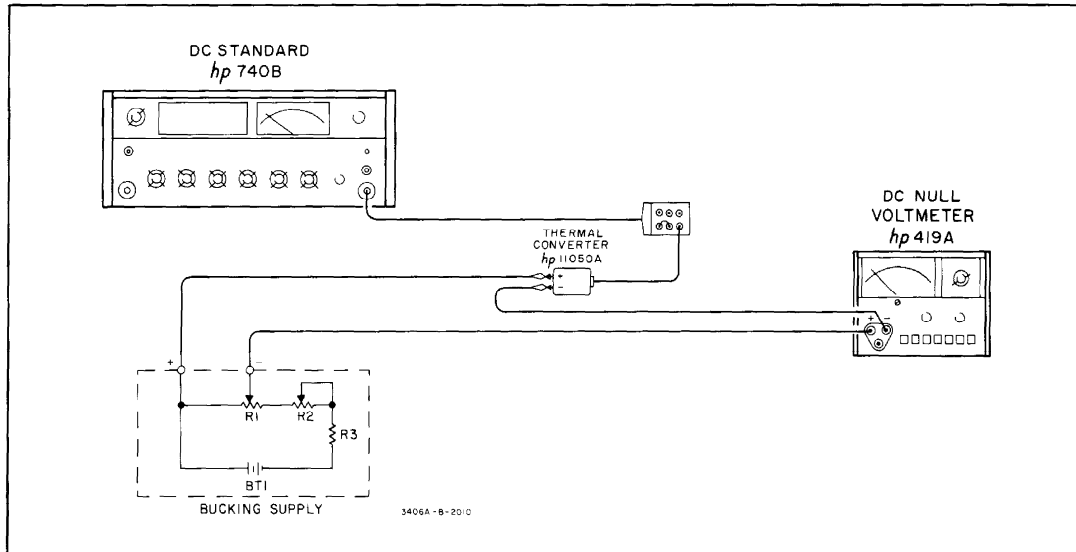

Figure 5-1. Bucking Supply Setup
- b. Connect the equipment as shown in Figure 5-1.